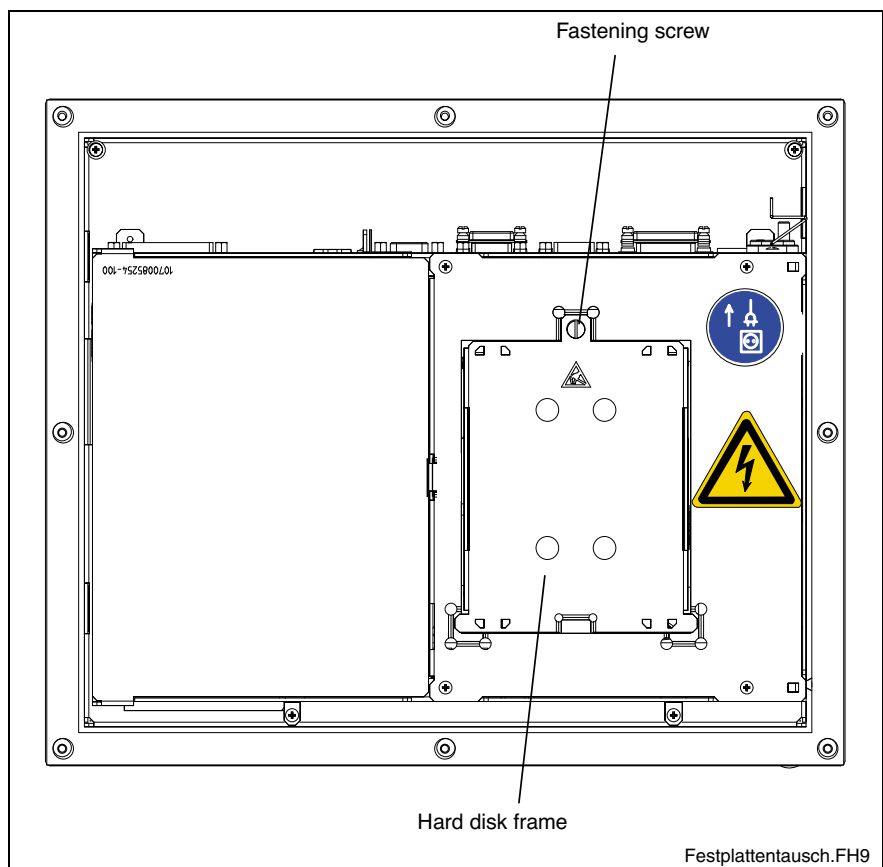

Fig. 8-1: Position of the hard disk's installation frame and the fastening screw
4. Loosen the fastening screw of the hard disk's installation frame on the bottom side of the VPB 40.1 (see Fig. 8-1). Lift the hard disk frame and after releasing the retaining spring unplug the ribbon cable, with which the hard disk is connected to the main board. Now, the installation frame with hard disk can be removed.